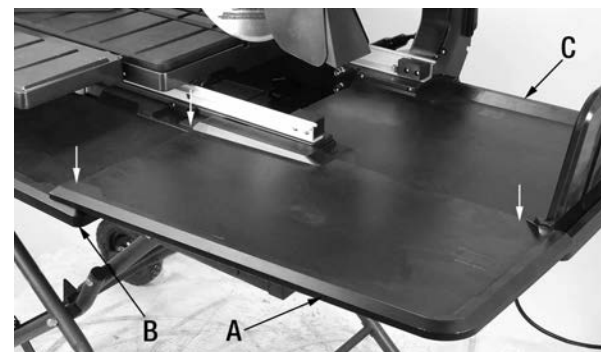

FIGURE 20
- 3) Finally, install the rear side tray extension (A) Fig.20 onto the front side tray extension (B). Slightly tilt the tray and insert its hooks into the two openings in the front side tray extension (B). Lower the tray, then align and snap tray into the hole in the rear tray extension (C).